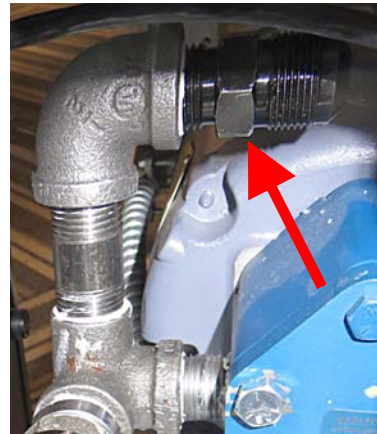

Figure 25
28. Attach flexline adaptor (8101668) to elbow in previous step and orient as shown (see Figure 25).